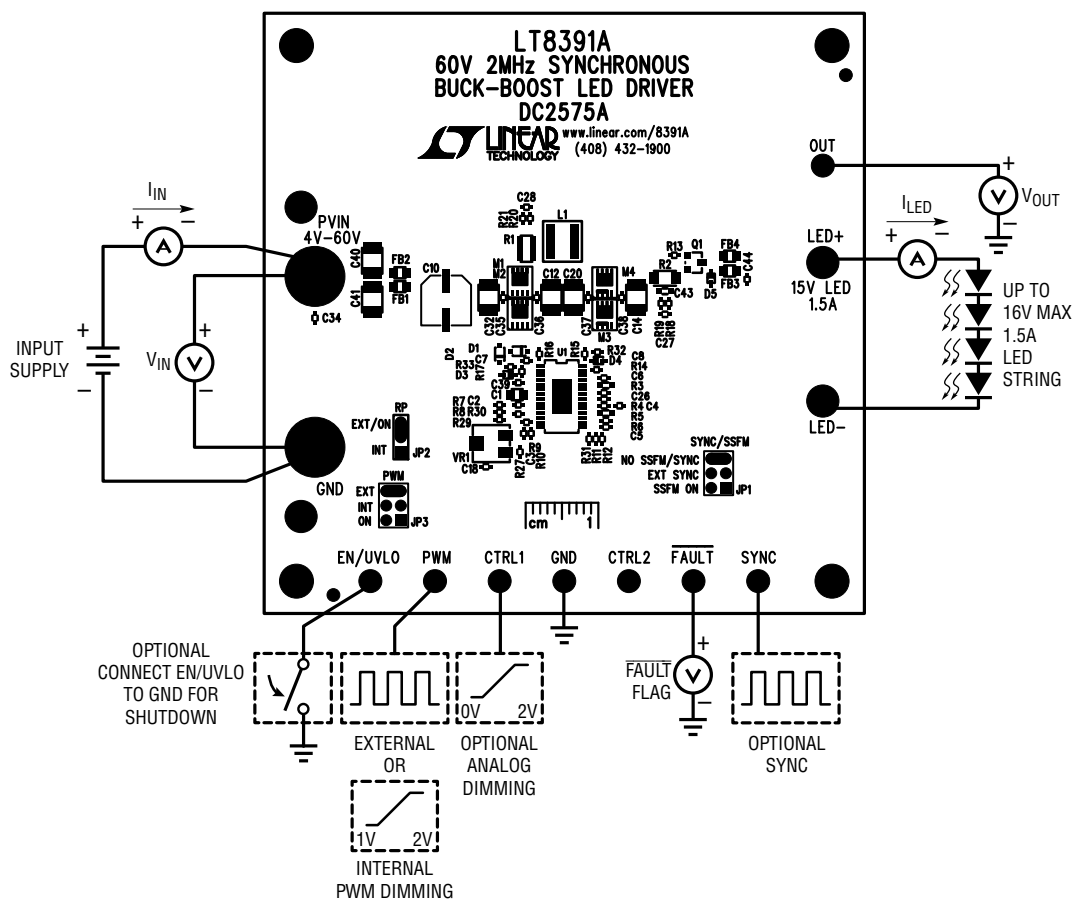

Figure 1. Test Procedure Setup Drawing for DC2575A
1. With power off, connect a string of LEDs that will run with forward voltage less than or equal to 16V (at 1.5A) to the LED+ and LED- banana jacks on the PCB as shown in Figure 1.